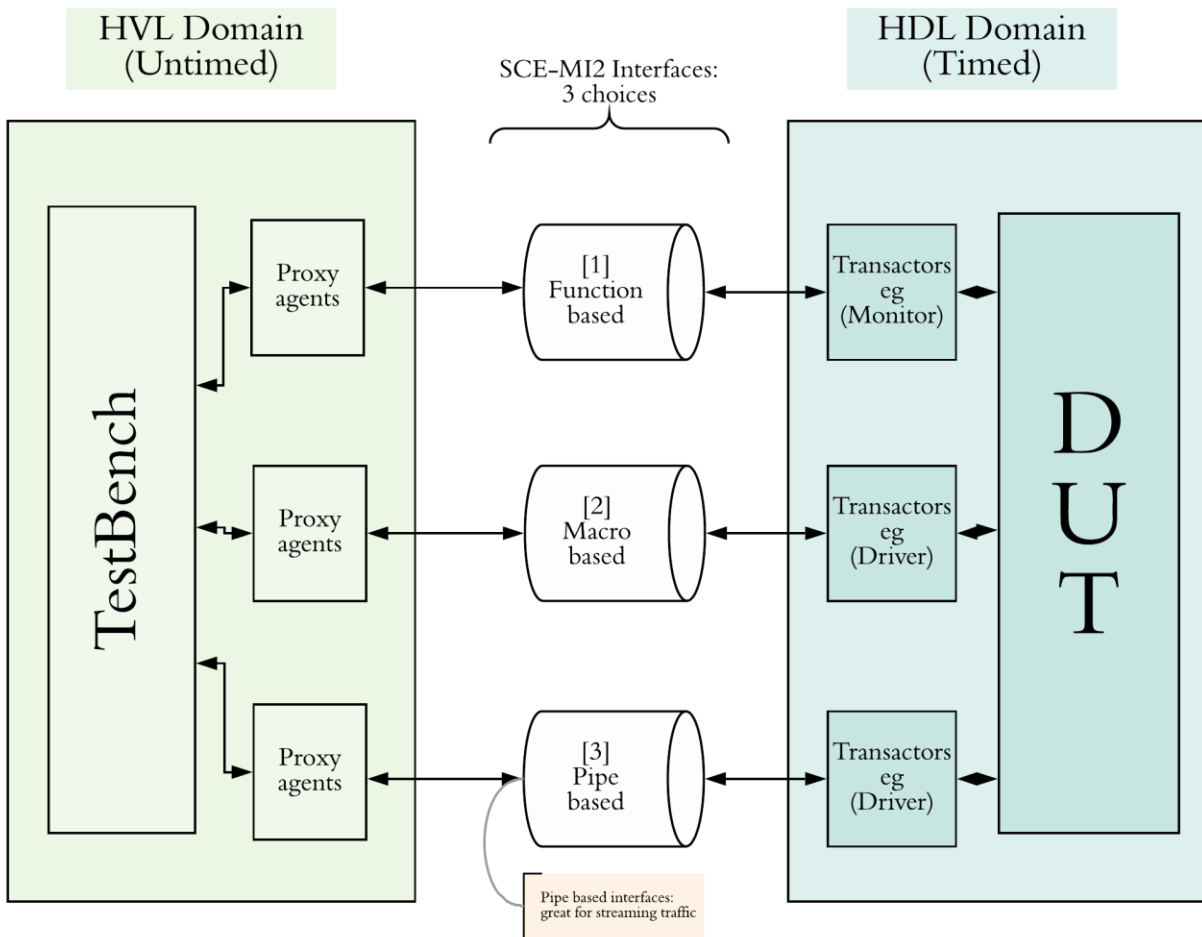

Figure 2: SCE-MI2 Modes of communication
1. Keep the HVL and HDL sections separate. *Ref: 3.1 3.2 Figure 2: SCE-MI2 Modes of communication*
4. Communications to happen through the standard interface protocols of SCE-MI2, *Ref: Figure 2: SCE-MI2 Modes of communication, 4.2.3*